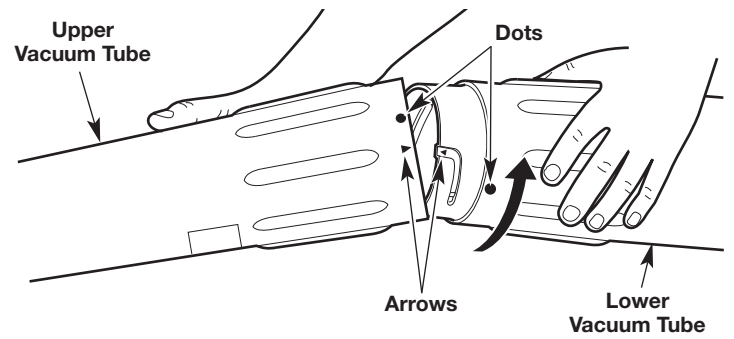

Fig. 8
2. Align the arrow on the lower vacuum tube with the arrow on the upper vacuum tube (Fig. 8).
3. Insert the lower vacuum tube into the upper vacuum tube (Fig. 8).
4. Twist the lower vacuum tube clockwise with both hands until it locks into place (Fig. 8).
NOTE: When properly assembled, the dot on the lower vacuum tube should align with the dot on the upper vacuum tube (Fig. 8).